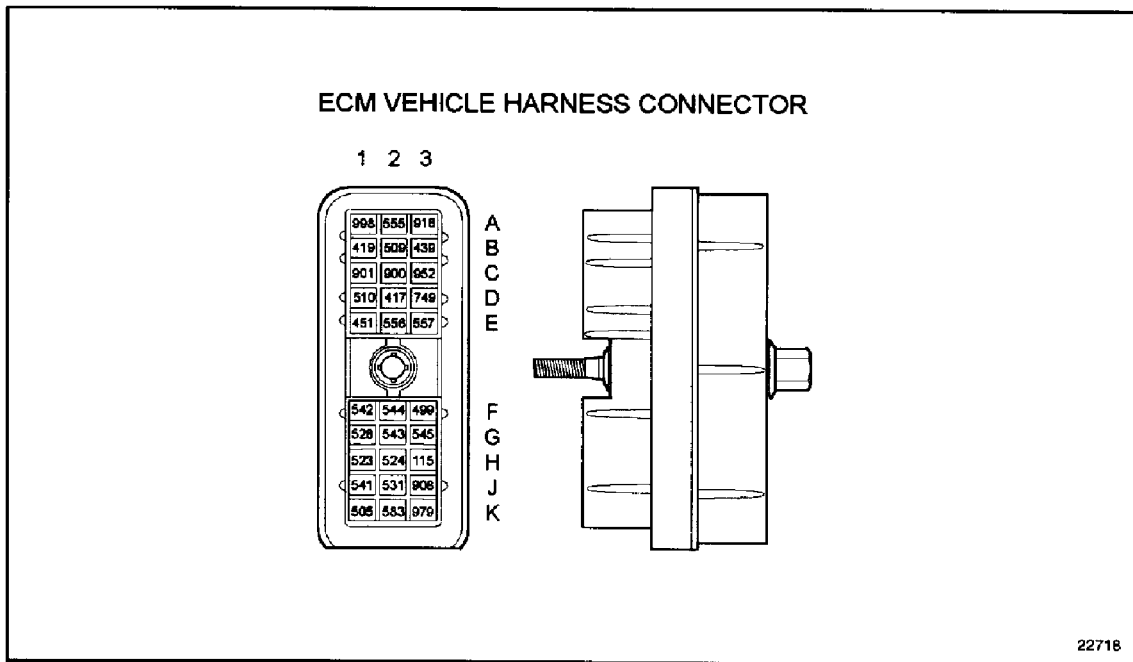

Figure 10-4 ECM Vehicle Harness Connector
2. Disconnect the vehicle harness connector at the ECM. For vehicle harness schematic, see Figure 10-4.